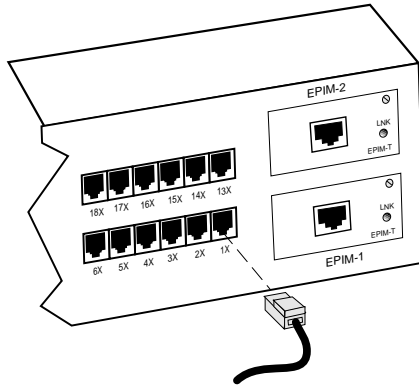

Figure 4-1. SEHI-22/24 Network Ports
1. Insert the RJ45 connector from each twisted pair segment into the desired network port on the SEHI. See Figure 4-1.